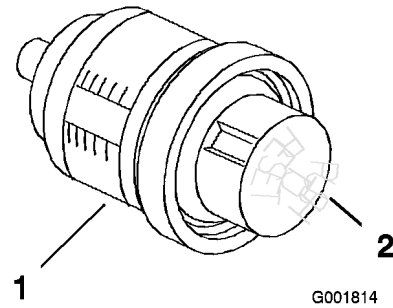

Figure 36
2. Reset the gauge by pressing the button in the bottom of the canister until the plunger returns to the lowest point (Figure 36).